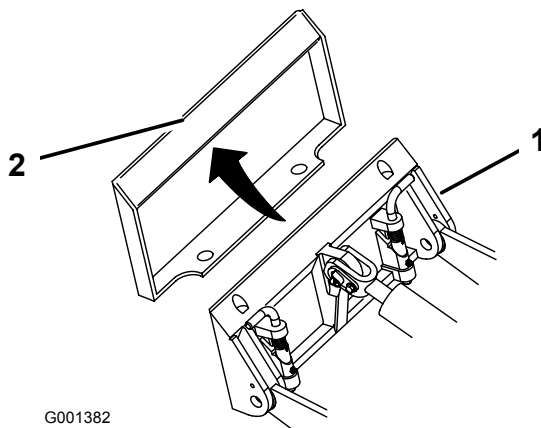

Figure 5
4. Position mount plate into the upper lip of the attachment receiver plate (Figure 5).